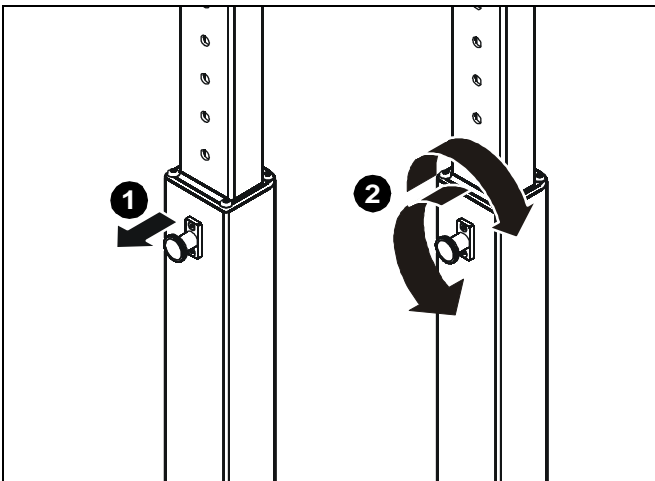

Figure 9
1. Adjust the stand to the desired height by holding the top part of the post, pulling out knob on the center post and turning 90° in either direction to disengage the locking mechanism. (See Figure 9)
2. Raise or lower the center post, then turn the knob 90° either direction to engage the knob and lock the stand at desired height. (See Figure 9)
IMPORTANT ! : Set the height of the stand so the display does NOT rest on the lower part of the post. (See Figure 9) Always set the height so the knob is engaged in a hole in the center post.